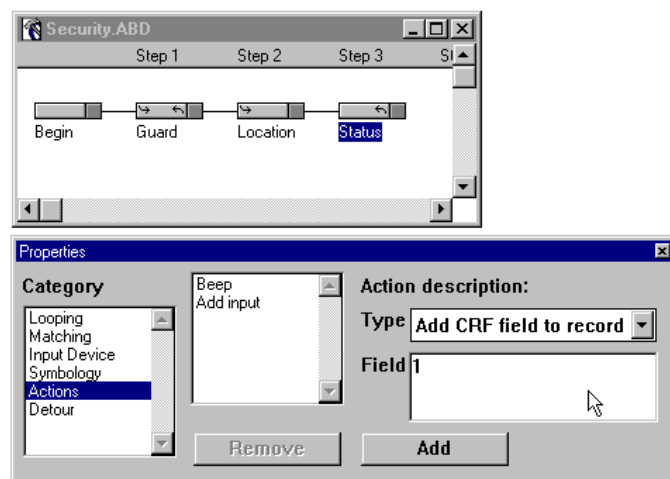

Figure 3-99 Actions Property - Add CRF Field to Record
i) The **Properties** window then displays a Field edit box to enter which CRF description field to use. Click in the **Field** edit box and type a **1** (Figure 3-99).